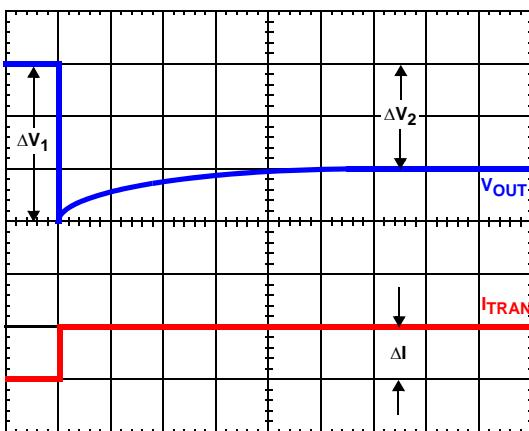

FIGURE 22. TIME CONSTANT MISMATCH BEHAVIOR
Due to errors in the inductance or DCR, it may be necessary to adjust the value of R_1 and R_2 to match the time constants correctly. The effects of time constant mismatch can be seen in the form of droop overshoot or undershoot during the initial load transient spike, as shown in Figure 22. **Do the following steps to ensure the R-C and inductor L/DCR time constants are matched accurately.**
2. Record ΔV_1 and ΔV_2 as shown in Figure 22.